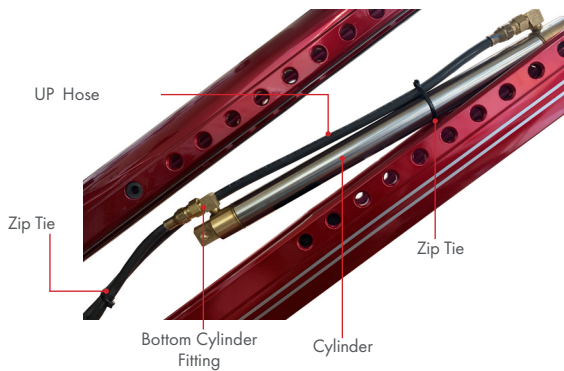

Figure 5
**STEP 5** Disconnect the **DOWN hose** from the **hydraulic cylinder fitting** by holding the **cylinder fitting base** with a **1/2" wrench** and turning the **hydraulic hose fitting** counter-clockwise with a **5/8" wrench**. **FIG 5**
**STEP 10** Zip-tie the **UP hose** 2/3 of the way up the **cylinder**. It will run beside the **bottom cylinder fitting** and lay on top of the **cylinder**. **FIG 5**
**STEP 11** Zip-Tie the **UP & DOWN hoses** together halfway between the **bottom cylinder fitting** and the point at which the hoses enter the stern bracket. **FIG 5**